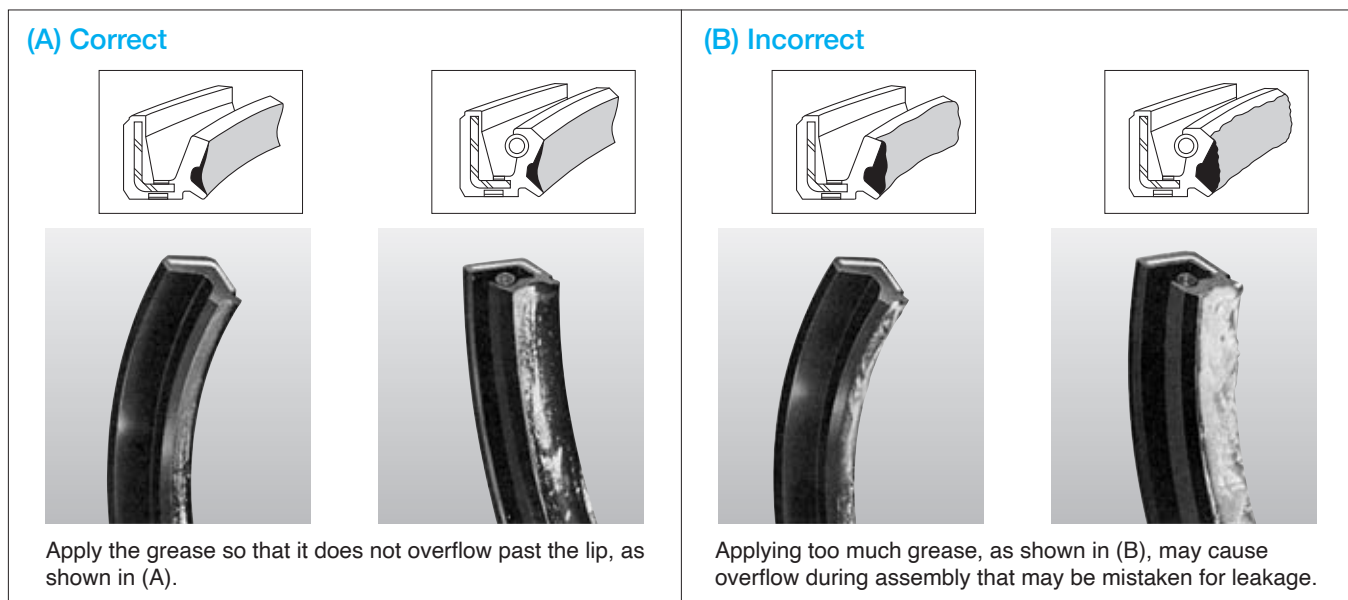

Fig. 7-3 How to Apply Grease
- ❶ Do not use an oil seal that has dust or sand on it, as leakage may occur.
- ❷ Do not scrape the sealing edge of the oil seal with nails or other hard objects. The sealing edge is the most important part in determining oil seal performance.
- ❸ For an oil seal having two or more lips, such as the T type and K type oil seals, apply grease* between the lips to lubricate the lips.
- ❹ For an oil seal having only one lip, such as the S type, V type, and TCK type oil seals, coat the seal lip edge with grease* to lubricate the lip.
*Please refer to Fig. 7-3 for grease filling methods.